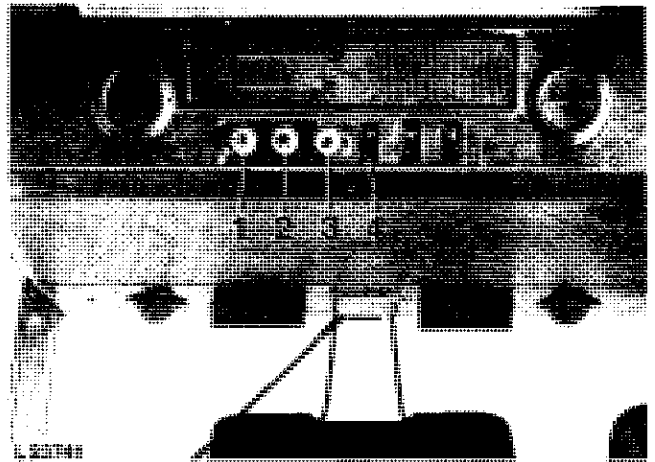

Fig. 4 — Operator's Cab Controls (OPU Cab)
1. Open air outlets. Check fan switch 2 (fig. 4 or 5) for proper operation.
With fan operating, check heater switch 1 (fig. 4 or 5) for proper operation. For this purpose, turn switch on tractors equipped with OPU cab to the left and with SG2 cab to the right, making sure that warm air enters cab (with engine at operating temperature).
With fan operating, check infinitely variable thermostat switch (if equipped) for proper operation. Turn off heater. Turn thermostat switch 3 (fig. 4) clockwise, making sure cool air enters cab. If switch does not operate correctly, see Section 90, Group 05.